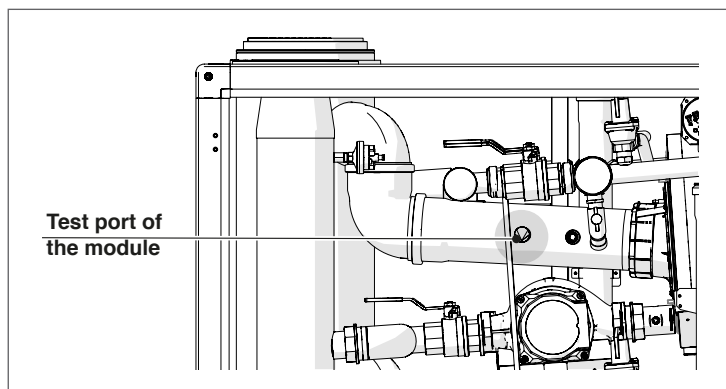

Fig. 19 *Test Port for Combustion Analysis (available on each individual heat exchanger)*
- Insert a combustion analyzer probe into the test port shown in Fig. 19